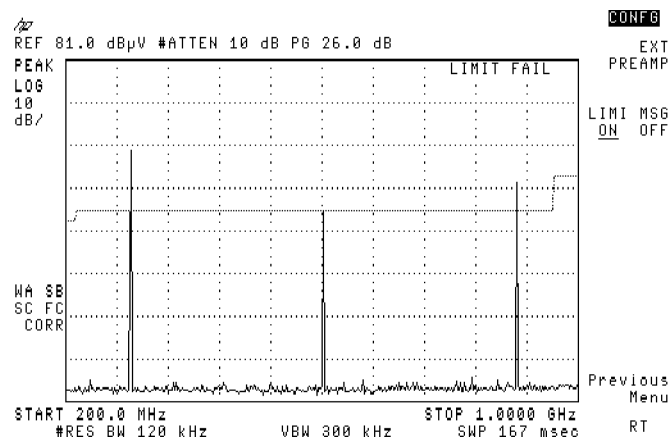

Figure 3-82. Displaying LIMIT FAIL
19. Press **LIMI MSG ON OFF** (ON will be underlined). **LIMI MSG ON OFF** turns the testing limits on. **LIMIT FAIL** is displayed because the calibration signal exceeds the limit line. See Figure 3-82.